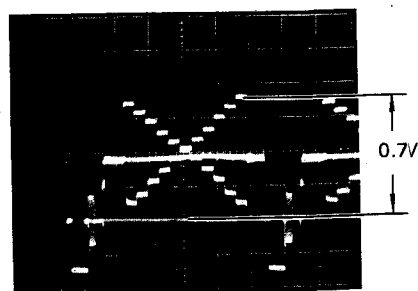

Fig. 5-6-25
- o Trigger the oscilloscope at H.rate. (Use TP9 (BL), Deflection board.)
- o Adjust VR1 (G GAIN), VR2 (R GAIN) and VR3 (B GAIN) so that the video signal level is 0.7V. (Fig. 5-6-25)